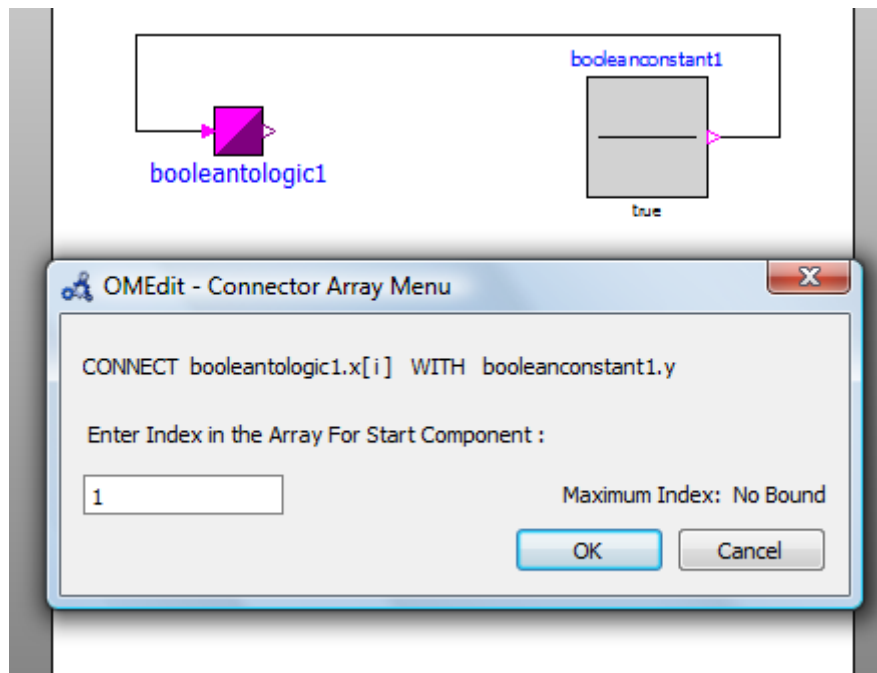

Figure 1-6: Connector Array Menu
- *Connection for Connector Array Type* – If any of the start port or the end port of the connection is of an array type, the user also needs to add indices at which the connection is to be made. For this a dialog box will pop up, as soon as the user clicks on the end port of the connection asking the user for indices of the array for whichever port it is necessary. For example, let's say, the user wants to connect, the x component instance of `Modelica.Electrical.Digital.Converters.BooleanToLogic` to the y component instance of `Modelica.Blocks.Sources.BooleanConstant`. Now since, `Modelica.Electrical.Digital.Converters.BooleanToLogic.x` is a connector array, as soon as the user clicks on the end port for this connection, a dialog box appears asking user the index of the start instance. See Figure 1-6.